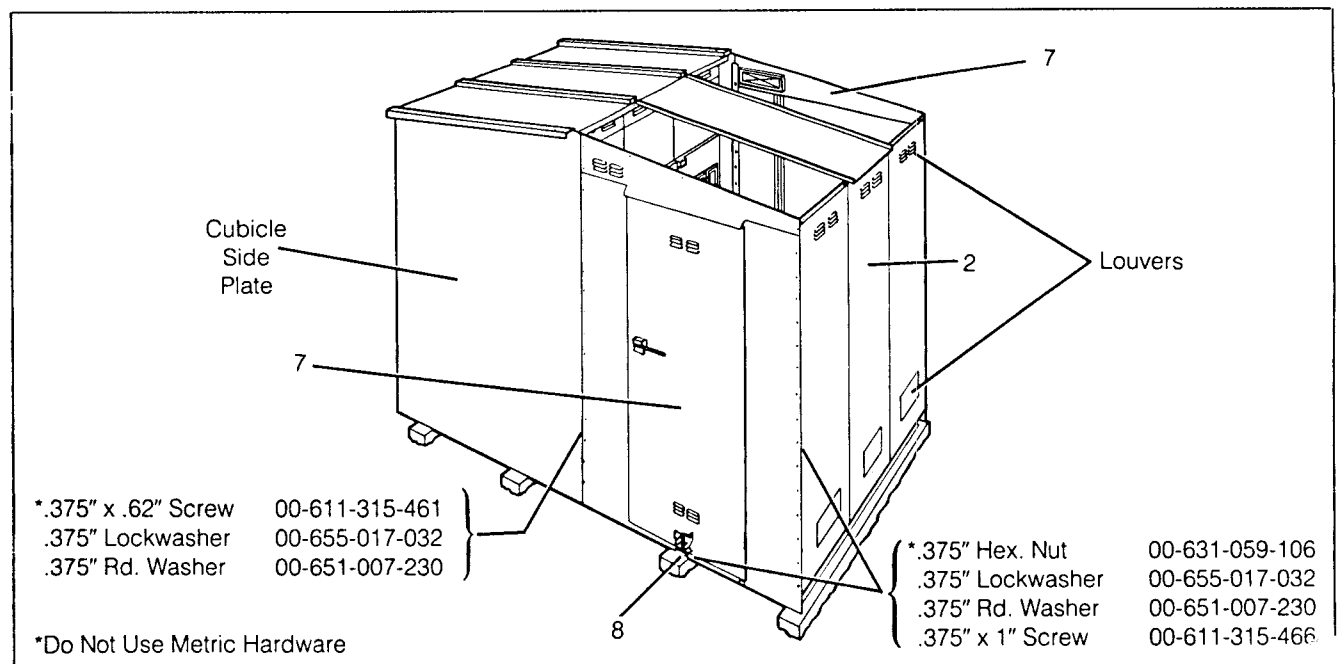

Figure 26. Door Installation — Single Aisle Layout
- Set door assemblies (7) in place. (See Figure 26.) Bolt the doors to the aisle wall (2) and to side plate of the cubicle.